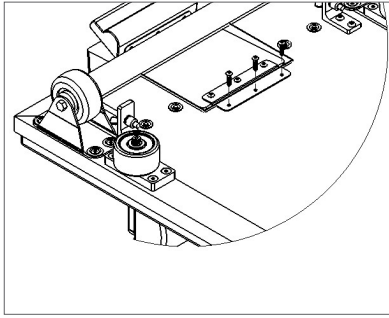

Figure 4
9. To move the headrest assembly, remove the 3 screws from the carriage side of the hinge and discard as shown in Figure 4. Move the headrest assembly to new carriage and install provided screws into new carriage.